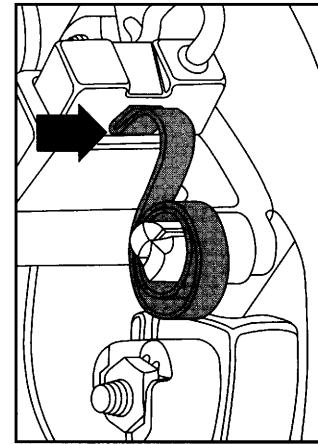

Figure 3 Integral brush spring cocked for assembly
12. Before reinserting the end bell assembly, each brush must be held in position in the brush guide to allow clearance for the commutator. Brush position can be maintained by cocking the spring against the side of the brush (see figure 3).